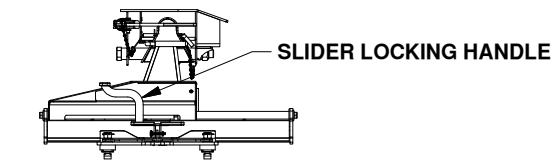

Figure H1: Side view of slider base.
3. Pull the truck forward slowly until the handle falls and is in the locked position, shown in Figure H1.
7. Move the truck slowly in reverse until the handle falls and is in the locked position, shown in Figure H1.